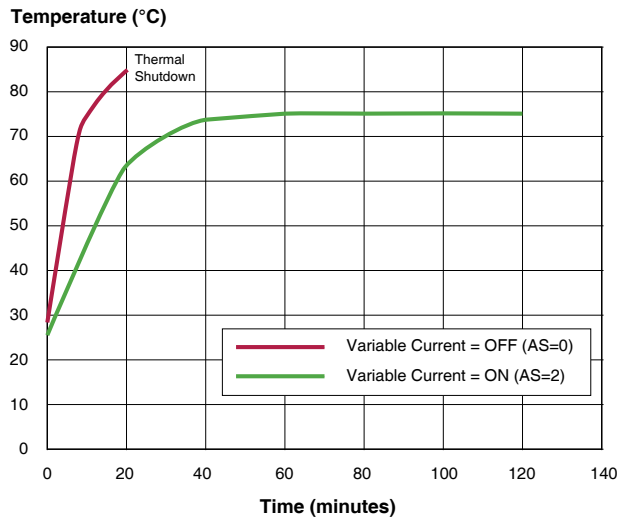

Figure 4: Temperature rise - 100% duty cycle
The impact of this can be seen in Figures 4 and 5, which shows test results comparing the motor temperature of a motor without variable current control to one with variable current control enabled under differing duty cycle conditions.
Figure 4 shows the impact of Variable Current Control on a motor that is constantly running at a speed of 2000 full motor steps per second at 25% torque. As seen in the graph, the motor at a fixed run current quickly heats to the point of thermal shutdown at 85 °C . The motor with Variable Current enabled maintains temperature within the operating range of the device.
**Figure 4 test conditions:** Power supply: 48 VDC regulated, Load: 26 oz-in (18.3 N-cm), Move profile: 1 rev/sec CW/CCW for 2.5 minutes each, then continuous @ 2000 fullsteps/sec – 1 minute CW, 1 minute CCW.